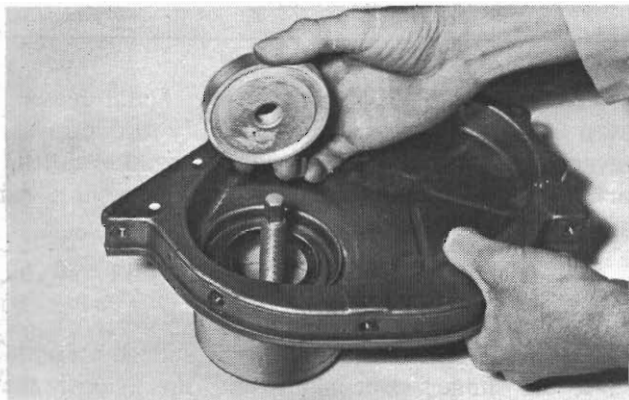
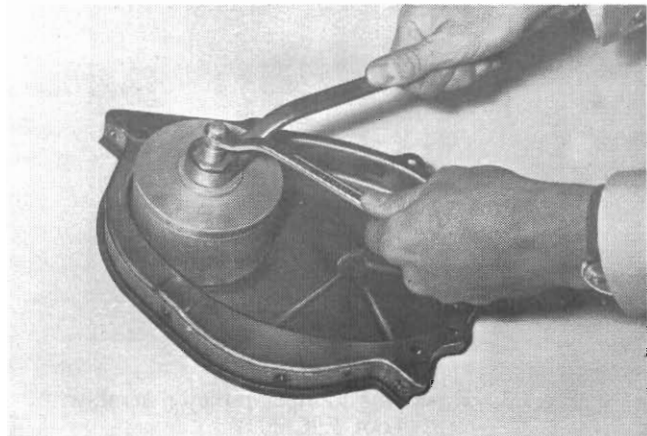

Fig. 26 - Puller blocks No. E9C57C expanded to puller position (Tool E9C57)
Fig. 27 - Removing oil seal (Tool E9C57 and Sleeve No. E9C57C)
(2) Place washer and nut on puller screw. Tighten the nut forcing blocks into gap to a point of distorting the seal retainer lip (Fig. 26). Puller is only positioned at this point.
(3) Place sleeve over retainer and place removing and installing plate into sleeve.
(4) Place the flat washer and nut on puller screw. Hold the centre screw and tighten lock nut to remove seal (Fig. 27).